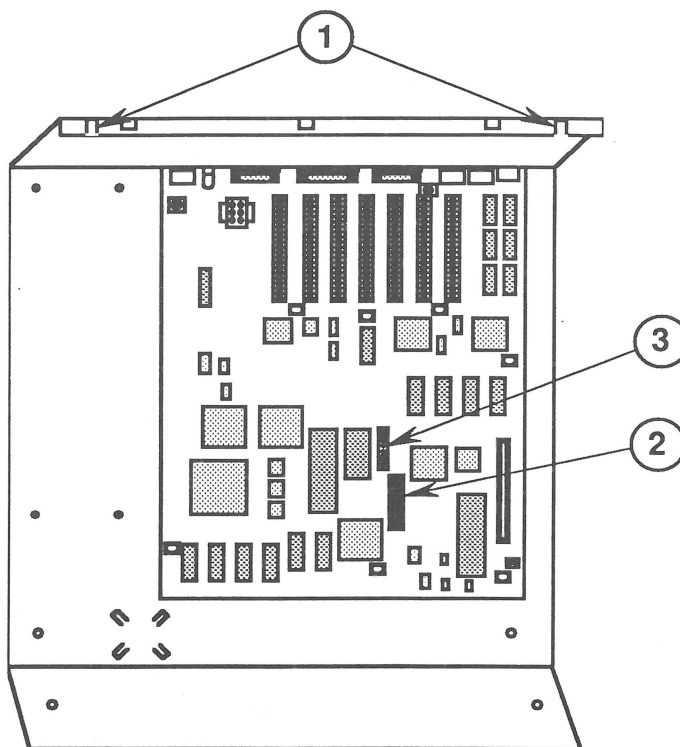
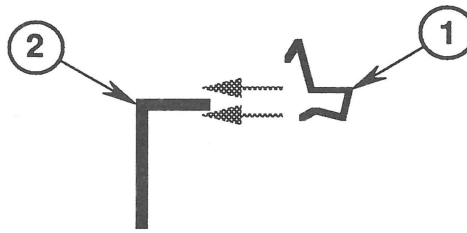

FIGURE 3
FIGURE 4
11. Install the shielding strip on the rear of the bottom pan between the two notches (Figure 3, #1). Figure 4, shows a side view of the shielding strip (Figure 4, #2). being slid onto the rear lip of the bottom pan (Figure 4, #2).
15. Connect the keyboard cable to its socket on the logic board (Figure 3, #2).
Note: If the customer has an Apple IIe Numeric Keypad, plug it into the connector shown in Figure 3, #3.